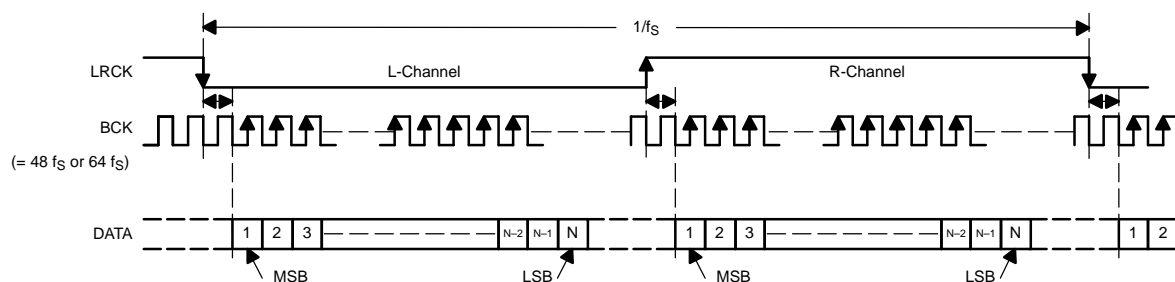

Figure 20. Audio Data Input Formats
The TPA3200D1 supports I²S and 16-bit-word right-justified. The data formats are shown in Figure 20. Data formats are selected using the FORMAT pin on the TPA3200D1. All formats require binary 2s-complement, MSB-first audio data. Figure 19 shows a detailed timing diagram for the serial audio interface.
- (1) A digital data stream consists of two channels of data. In an I²S or right-justified data stream, the left-channel data precedes the right-channel data (See Figure 20). The LR_SEL input selects the channel to send to the mono output.